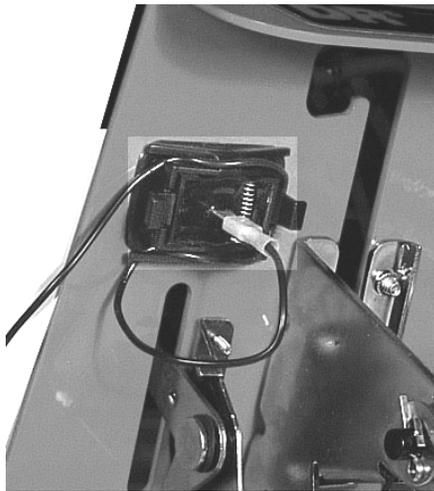

Figure 23
6. Slide the Connector onto the male fitting on the back of the Meter. When finished, the assembly should appear as in **Figure 23**.